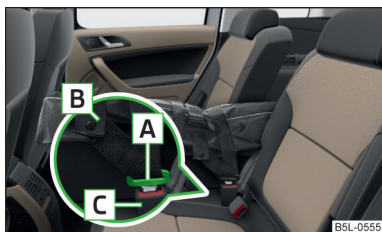

Fig. 76
- › Insert the lock tongues **A** » Fig. 76 in the belt locks of the rear middle seat belt **C**, first on the one side and then on the other side.